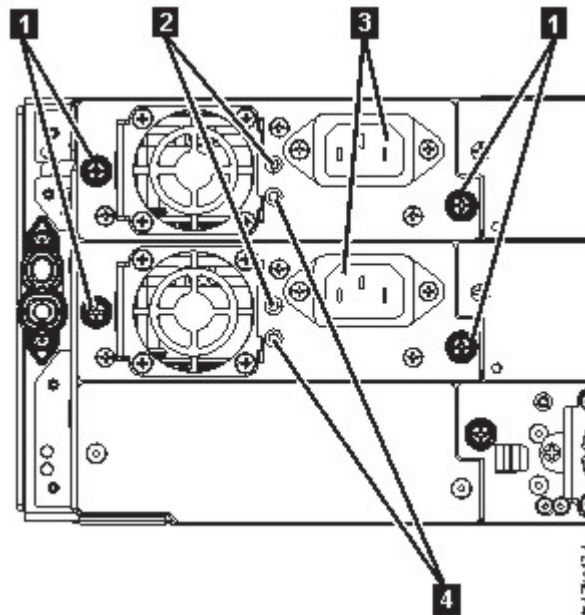

Figure 67. Power supplies
- The white (**2** in Figure 67 on page 115) LED is lit.
- The green (**4** in Figure 67 on page 115) LED is unlit.